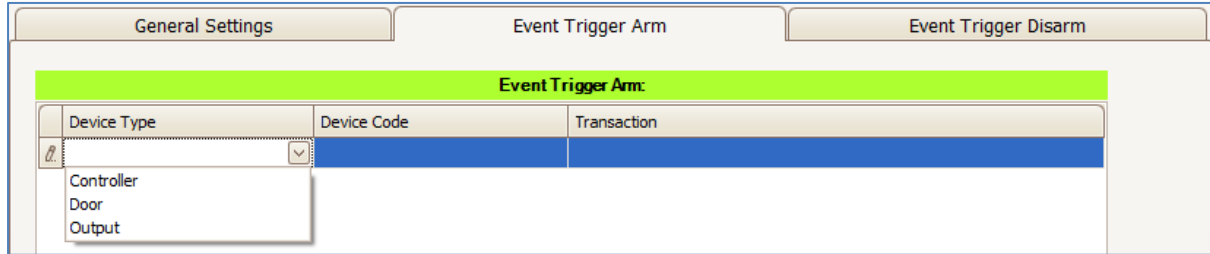
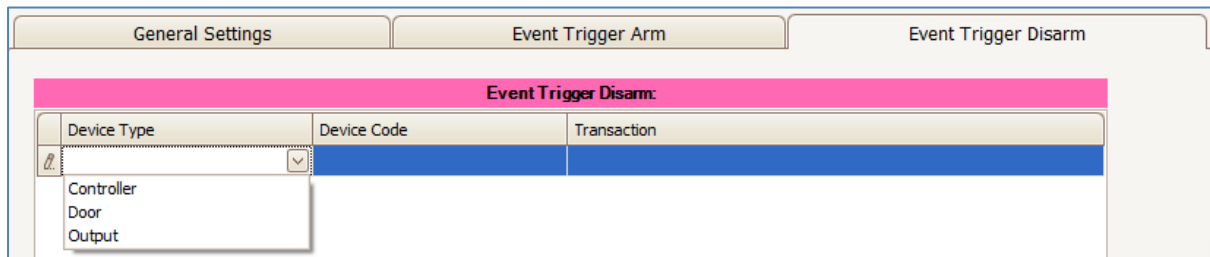

Figure 134 - Event Trigger Arm
Figure 135 - Event Trigger Disarm
5. You can set the input settings in the General Settings, Event Trigger Arm and Event Trigger Disarm (Refer **Figure 133**, **Figure 134** and **Figure 135**).